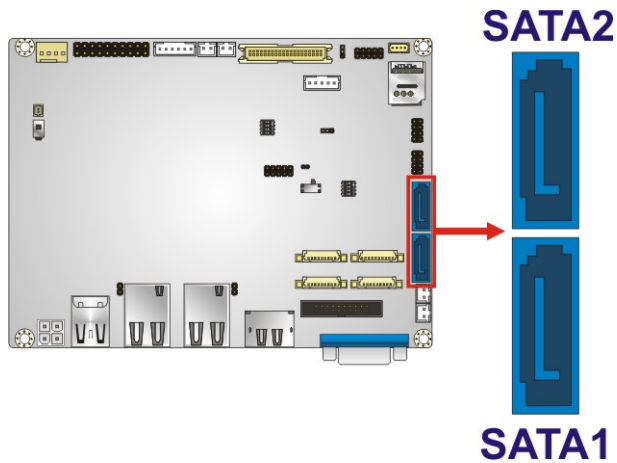

Figure 3-19: SATA 6Gb/s Connector Locations
- CN Location:** See **Figure 3-19**